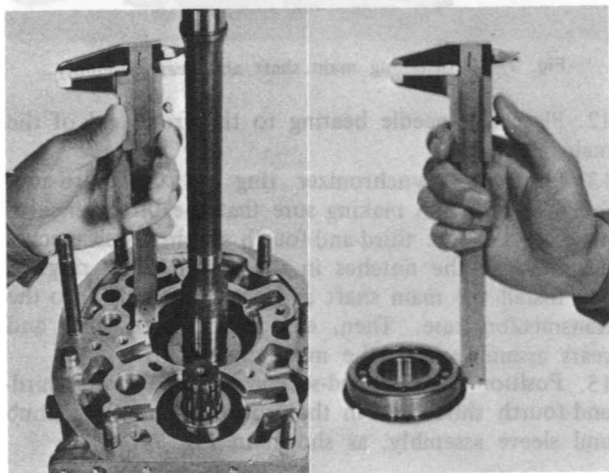

Fig. 7-23 Checking end play
17. Check the main shaft bearing end play, proceed as follows: Measure the depth of the main shaft bearing bore in the clutch housing by using a depth gauge. Then, measure the main shaft bearing height shown in Fig. 7-23. The difference between the two